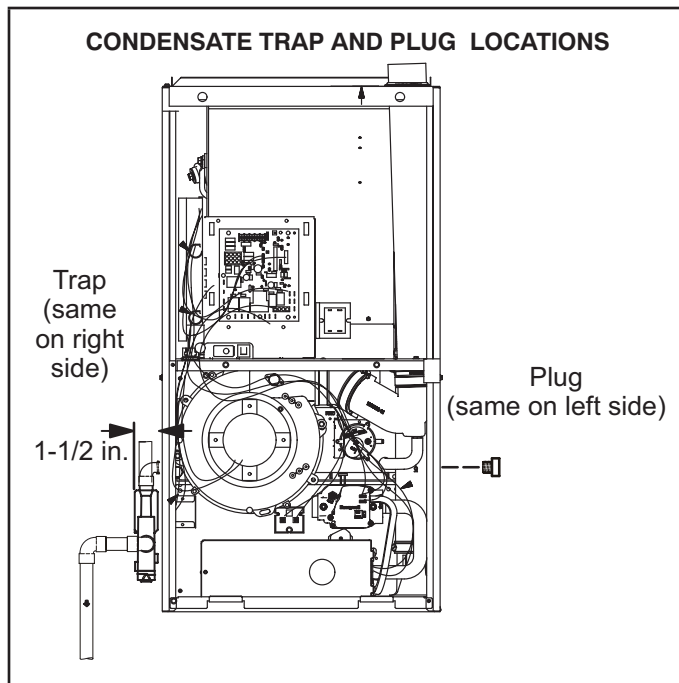

FIGURE 43
This unit is designed for either right- or left-side exit of condensate piping. Refer to FIGURE 43 for condensate trap locations.
- 2 - Use a large flat head screw driver or a 1/2" drive socket extension and remove plug (FIGURE 43) from the cold end header box at the appropriate location on the side of the unit. Install provided 3/4 NPT street elbow fitting into cold end header box. Use Teflon tape or appropriate pipe dope.